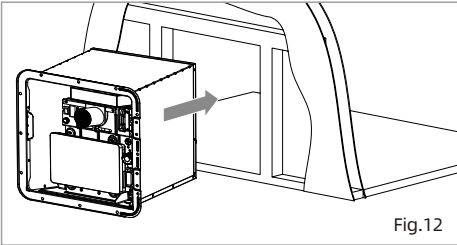

Fig.12
1. Position the water heater carefully into the frame opening, evenly space the flange to the exterior wall of the RV. (Fig.12)